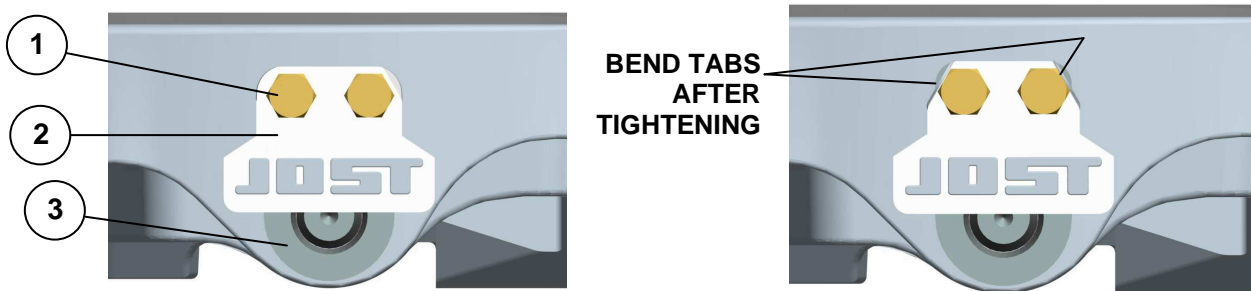

FIGURE 4
7. Install the pivot pins (item 3) aligning the flange with the threaded holes in the topplate casting.
8. Align a locking tab (item 2) with each pivot pin and install the hex head cap screws (item 1) thru the locking tabs, the pivot pin flange and into the topplate casting ears.
9. Bend the locking tabs over each cap screw as shown in figure 4.